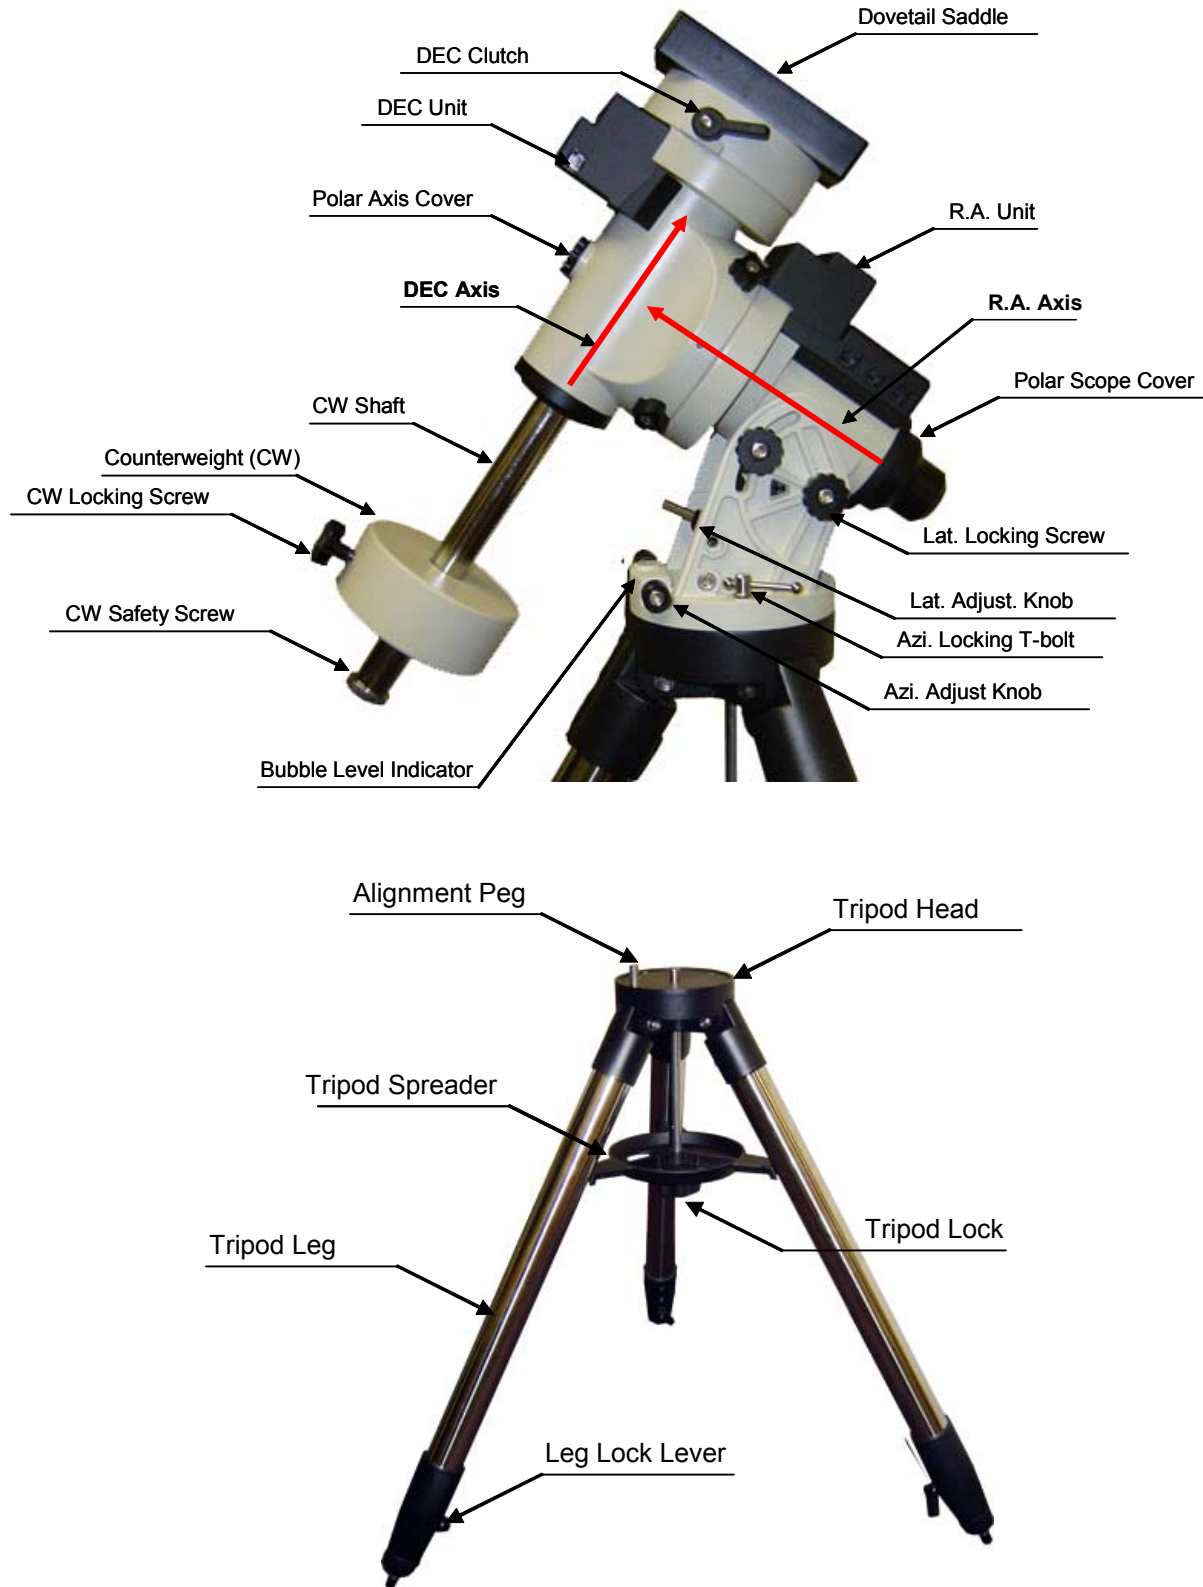
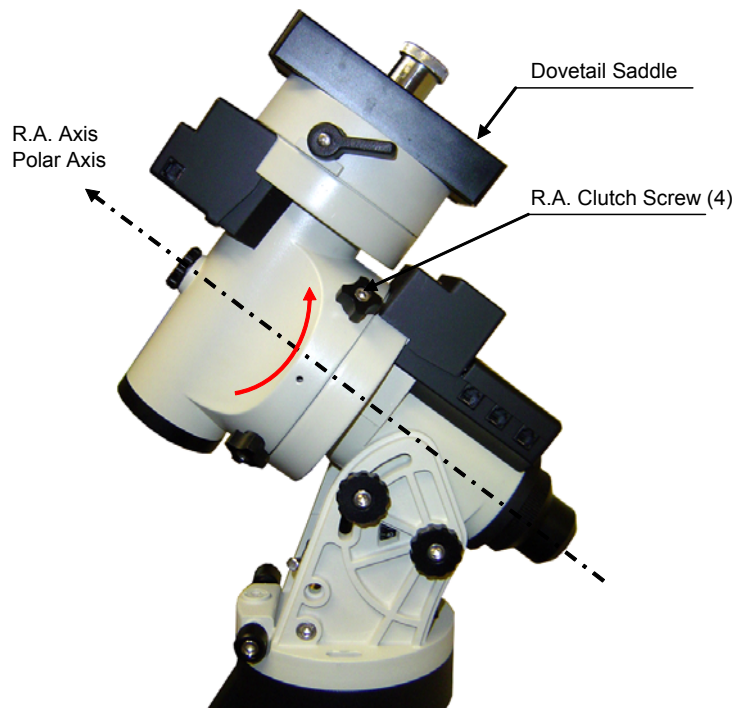

Figure 1. iEQ45 assembly terms (mount and tripod)
Figure 7 Rotating mount head
Carefully remove the mount from the shipping box and familiarize yourself with the components shown in Figure 1. Unlock the four (4) R.A. Clutch Screws and rotate the mount 180° around the R.A. axis to move the dovetail saddle face topside to the highest vertical position as shown in Figure 7. Tighten the R.A. Clutch Screws.